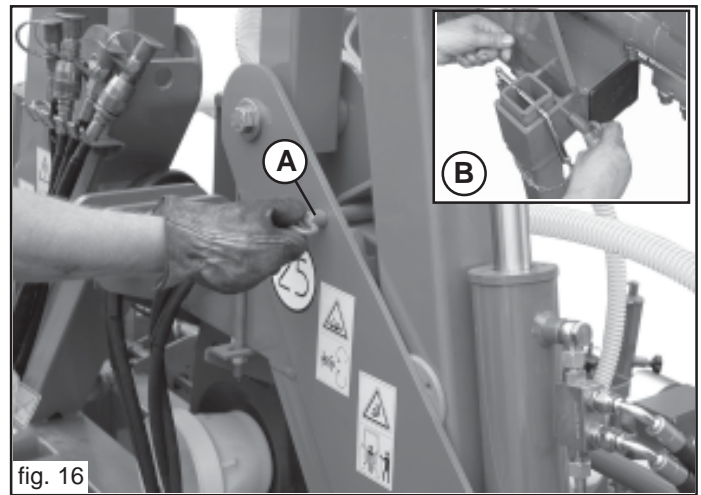

fig. 16
- 4) Unhook the safety pins on the frame (A, Fig. 16) and place them in their relative seats (B, Fig. 16).
- 8) Hook the frame safety pins into their relative seats (A, Fig. 16).